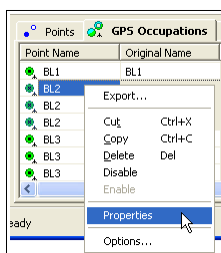

Figure 5-8. Open Properties
1. To add a new antenna type to the antenna list or edit a current antenna type, right-click a GPS occupation and click **Properties** on the pop-up menu (Figure 5-8).